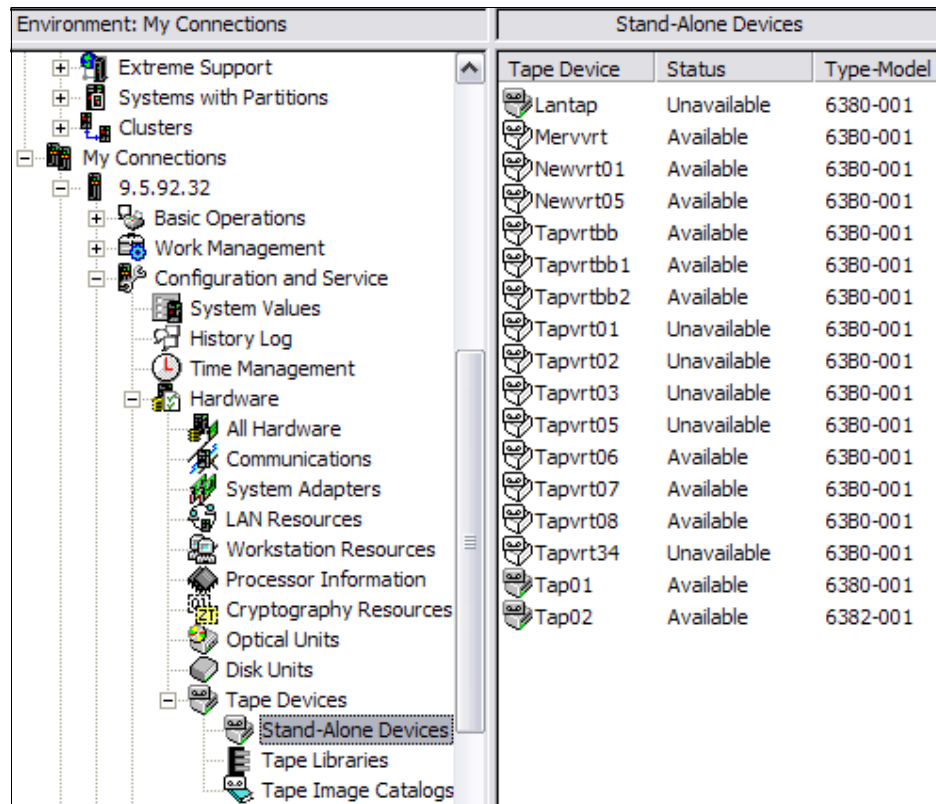

Figure 8-9 Tape devices
8. Scroll down the Navigator until it displays the tape devices, as shown in Figure 8-9.